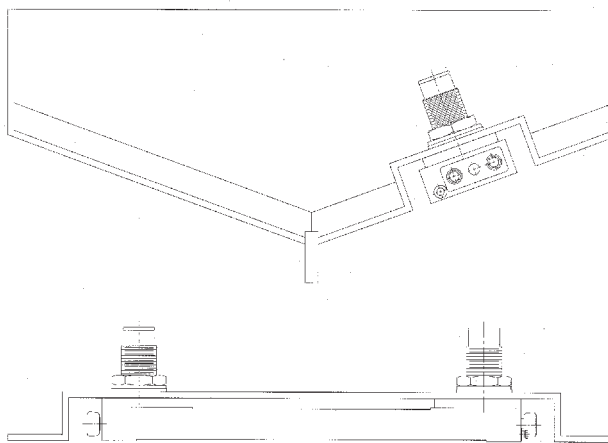

FIG. 2 Recess type installation with E1 SERIES end-mounted zinc anodes for reduced drag in high-speed craft.
1.7.3 High speed applications and others that use E1 SERIES™ coolers should take into consideration the removal and replacement of zinc electrodes when sizing the length of a recess. See Figure 2.